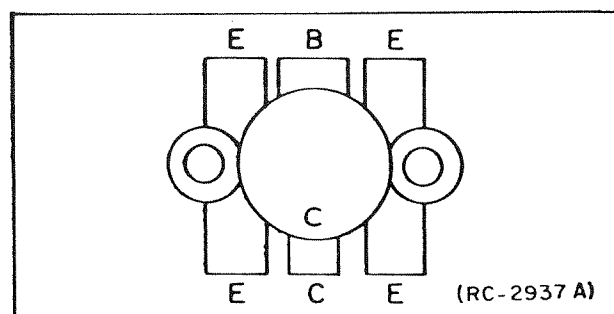

Figure 2 - Lead Identification
1. Trim the new transistor leads (if required) to the lead length of the removed transistor. The collector lead is identified by the smaller center lead (See Figure 2). The letter "C" on top of each transistor also identifies the collector.